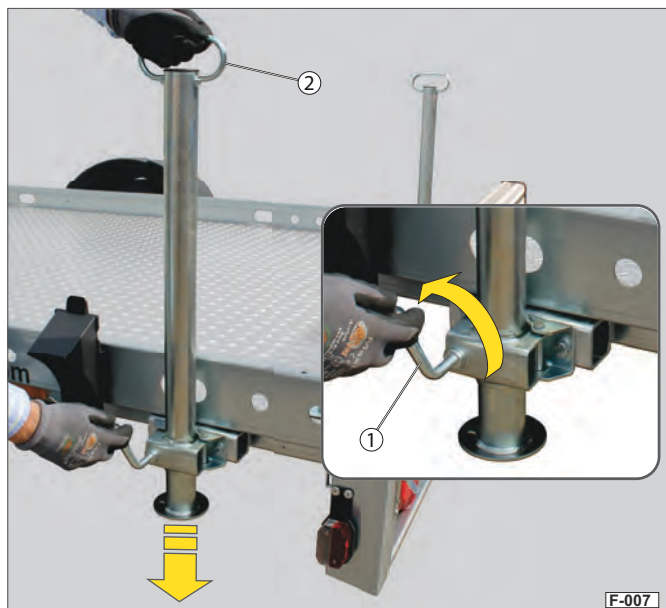

Fig. 7 Undoing prop stand
- ▶ Unscrew the T-handle (Fig. 7 /1).
- ▶ Hold the handle (Fig. 7 /2) of the prop stand tight.